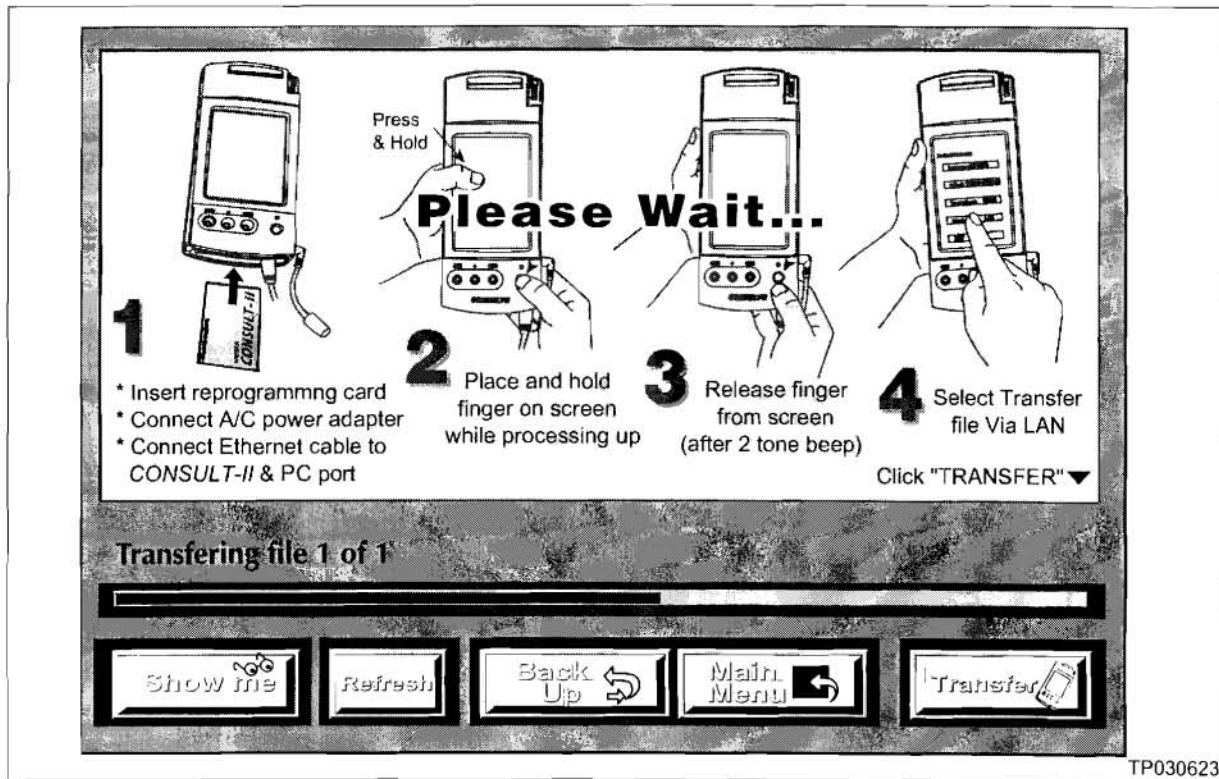

Figure A9
A. On the ASIST screen, click on **"Transfer"** (see Figure A9).